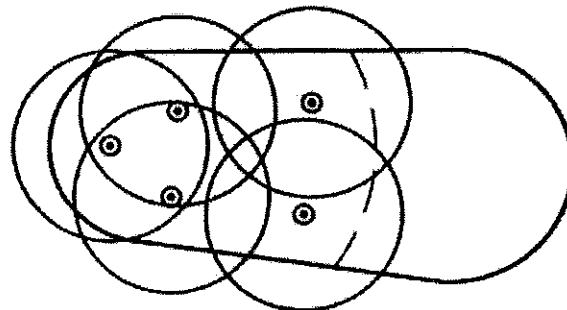

Figure 2-5: Pool #2 Right
Pool #2, by adding one (1) extra head, the deep end can be properly covered by relocating the heads as shown in *Figure 2-5*.